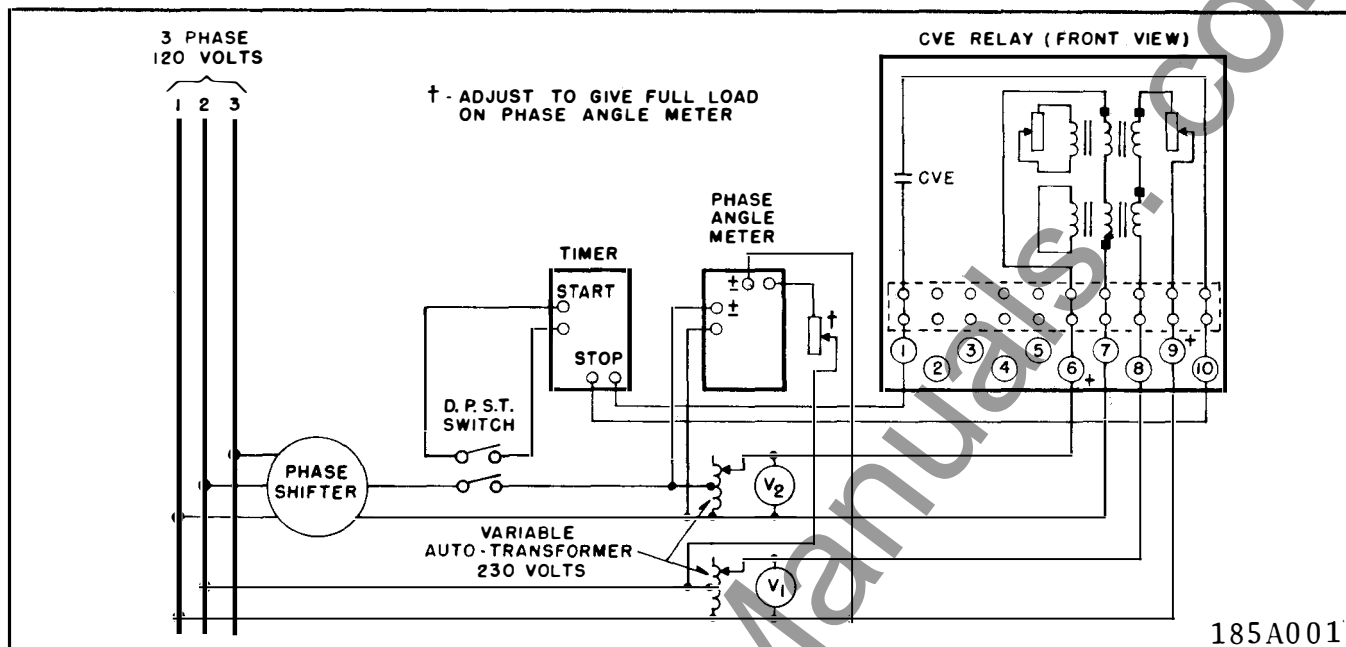

Fig. 14 Diagram of CVE Test Connections.
*2. **Operating Circle**—Connect the CVE relay per the test diagram of Fig. 14. CVE-1 relays should be connected in a
3. *Spurious Torque Adjustments*—With the relay set as per the preliminary adjustments, open the lag coil circuit of the rear electromagnet. This can be done by opening the screw connection on the lag coil of the rear electromagnet or by inserting a piece of insulating material under the adjustable point of the left hand resistor (front view). Connect the relay to test circuit of Fig. 14 for CVE, or similar circuit for CVE-1, and apply rated voltage at zero phase angle on both circuits. With the right hand plug all the way in, adjust the left hand plug of the rear electromagnet such that the disc does not move from the number 11 time dial position. This can be determined by no movement of the disc when the time dial is moved beyond the number 11 position.
With V_1 in Fig. 14 equal to rated voltage the following approximate voltages should be obtained across the coils of the 120 volt relay. Relay set for 20 degree circle.